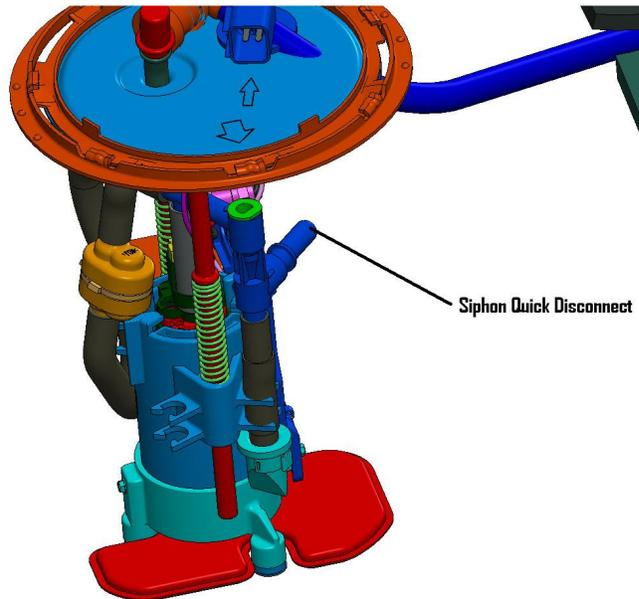

FIGURE 1-2
8. Slowly pull the fuel pump unit up until you see the quick disconnect fitting and tube. Press the tab and pull the line to remove. Pay close attention not to bend the float level arm as you remove the hanger assembly. **Figure 1-2.**